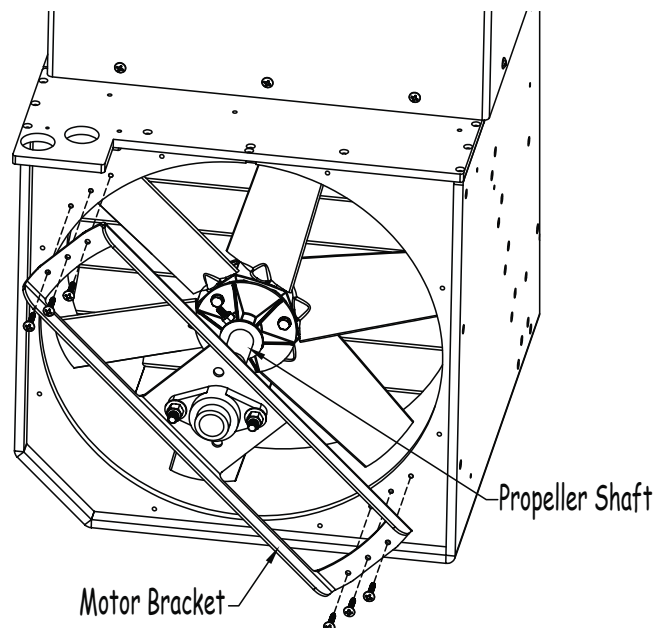

Fig 20
19. Carefully remove the motor bracket from propulsion system base by removing the six screws on each end of the bracket and sliding the bracket off of the propeller shaft (Fig 20).